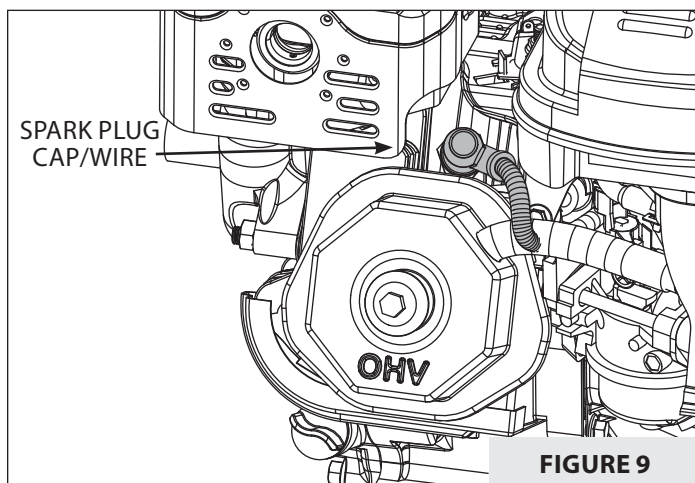

FIGURE 9
1. Detach spark plug cap/wire and move away from spark plug. **SEE FIGURE 9.**
4. After analysis, seat spark plug and tighten with spark plug wrench to compress the sealing washer. **SEE FIGURE 9 on previous page.**